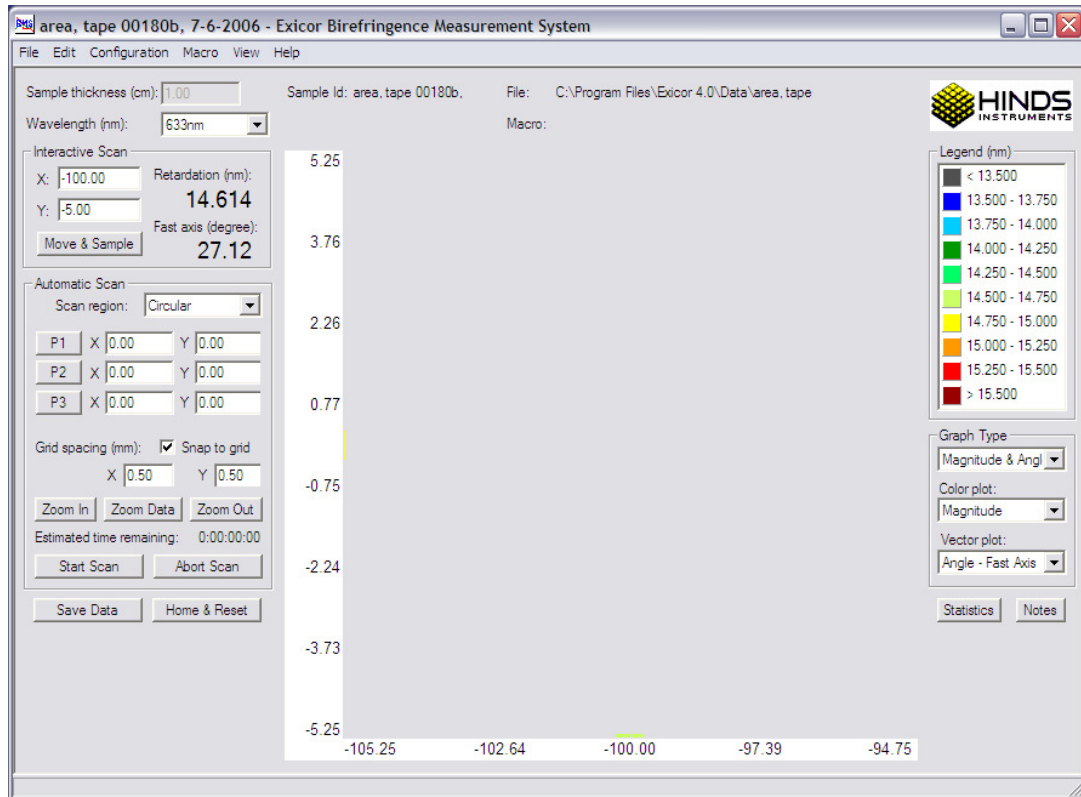

Figure 4.1 Exicor Main Window at Startup
1. Double-click on the **Exicor** icon on the computer desktop. The screen shown in Figure 4.1 appears.